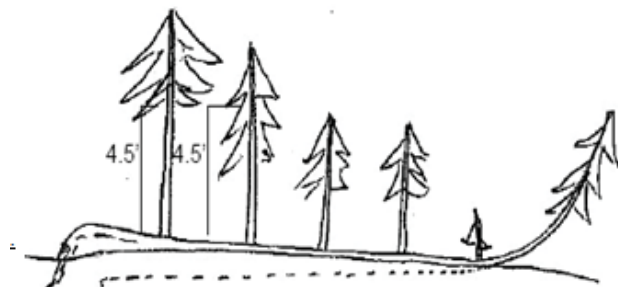

Figure 8.23: Down tree below duff
B. If the pith of main tree bole is below the duff layer, ignore the main bole, and treat each tree-like branch as a separate tree; take DBH and length measurements from the ground, not necessarily from the top of the down bole (Figure 8.23). However, if the top of the main tree bole curves out of the ground towards a vertical angle, treat that portion of that top as an individual tree originating where the pith leaves the duff layer.